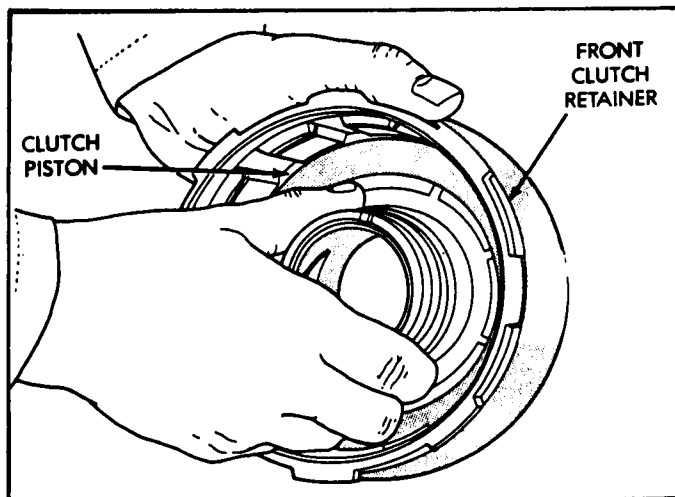

Figure 61
8. Install the front clutch piston in the front clutch housing with a twisting motion until fully seated (See Figure 61).